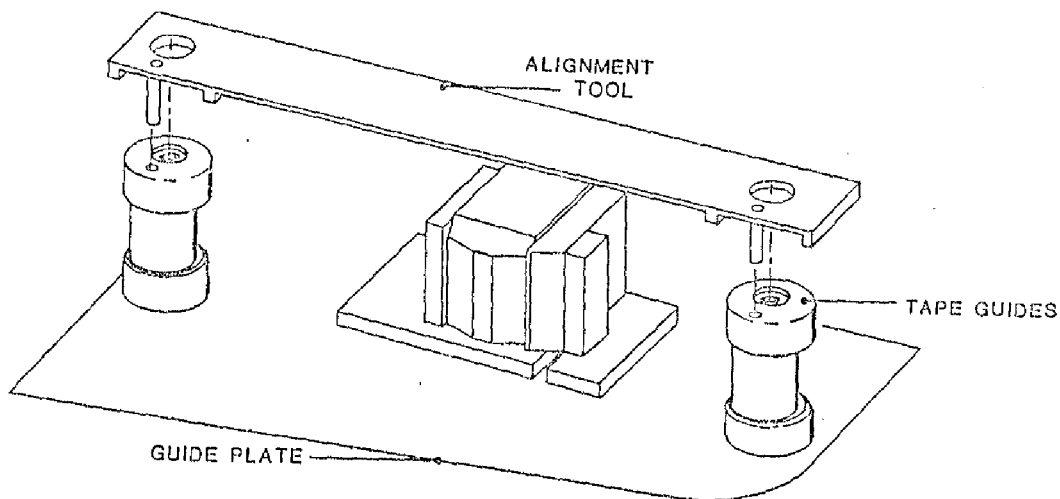

Figure 5-28. Tape Guide Alignment
5.3.34 TAPE GUIDE REPLACEMENT (Figure 5-28)
3. Remove the Tape Guide Mounting Screw from each Tape Guide (Fig. 5-28).
4. Remove the Cap (Fig. 5-28) from each Tape Guide. Leave the rest of the Guide in place.